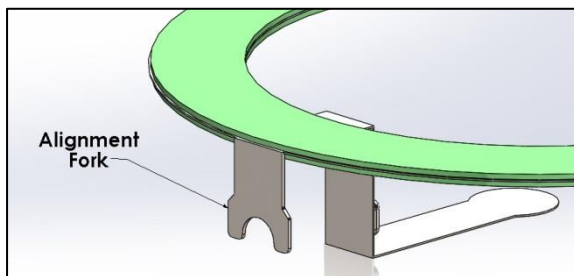

Figure 3 - Z-ALERT Alignment Fork
- h) Tighten the retaining nut until it sits flush with alignment fork (Figure 3). Excessive force should not be used. The retaining nut must only be snug against the fork surface.
- Tighten the retaining nut until it sits flush with alignment fork (Figure 3). Excessive force should not be used. The retaining nut must only be snug against the fork surface.